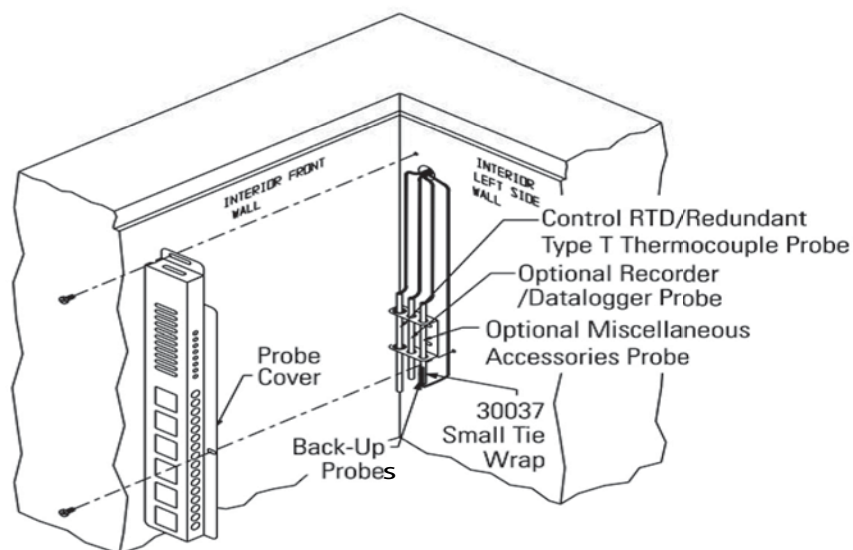

Figure 6-5. Probe location
4. Open the freezer lid and locate the probe cover on the upper front left wall. Remove the two Phillips head screws securing the probe cover (see Figure 6-5).
5. Route the BUS probe through the probe port, approximately 12". Secure the back-up probes to the temperature probe using a small tie wrap (Figure 6-5).
7. Reinstall the probe cover (Figure 6-5).